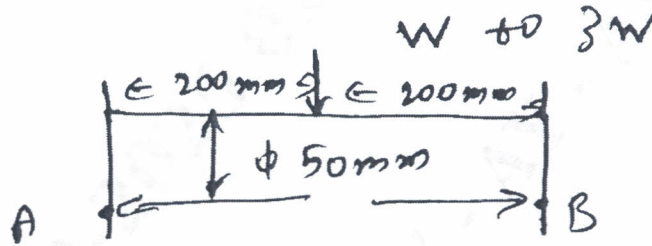

Fig Q4(b)
- b. Determine the maximum load for the simply supported beam is cyclically loaded as shown in Fig Q4(b). The ultimate strength is 700 MPa. The yield point in tension is 520 MPa and the endurance limit in reversed bending is 320 MPa. Use a factor of safety of 1.25. The load, size and surface correction factors are 1, 0.75 and 0.9 respectively.